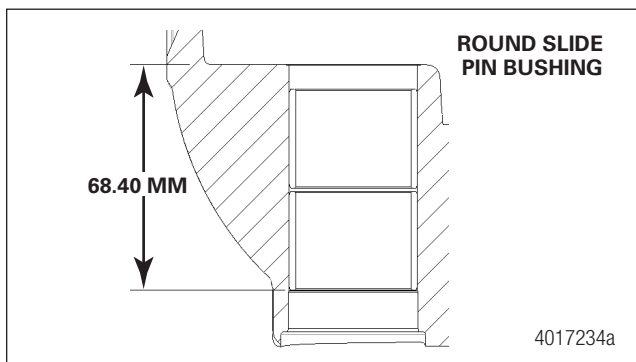

Figure 8.11 Round Slide Pin Bushing Depth
3. Repeat Steps 1-3 to install the second bushing, but insert the bushing from the end cap side of the bore. To confirm the correct position for the second bushing, measure the distance from the same end face of the housing (on the boot retainer side of the bore) to the bottom of the second bushing. The measurement should be 0.29-inch (7.4 mm). Figure 8.11.